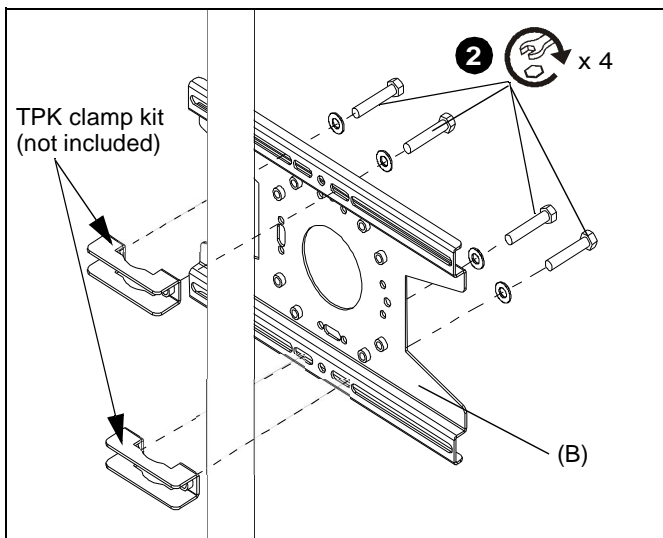
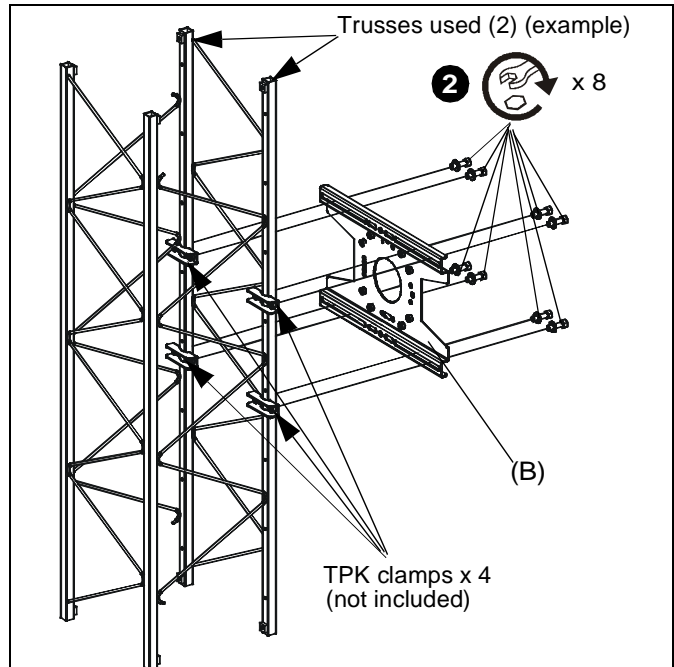

Figure 2
Figure 3
2. Securely anchor truss plate (B) to pole using Chief TPK clamp kit (not included) following instructions and using hardware included in kit. (See Figure 2) and (See Figure 3)
NOTE: The orientation of the truss plate (B) when mounted on a truss is the same as when mounted on a pole. The number of clamps required will depend on the number of trusses used for installation. (See Figure 3)